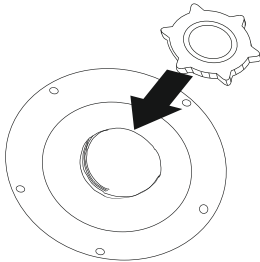

Fig. 3
3. Lock the Base Pole to the Base with the Base Pole Locking Nut. (Fig 3)